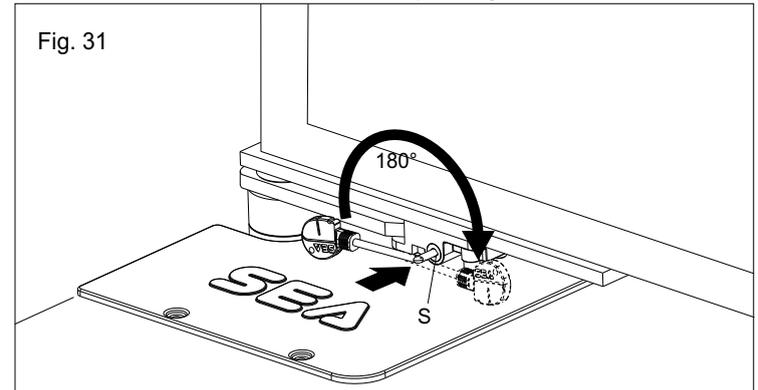

Fig. 31
When putting in function the installation it is peremptory to lubricate the box as in Fig. 31 until the grease comes out. (Use grease type DIN 51502 KP 2 N-20 - K2 K-20).
-Insert the enclosed key into the keyhole (S) and turn the handle about 180° against the centre of the gate (Fig. 31).